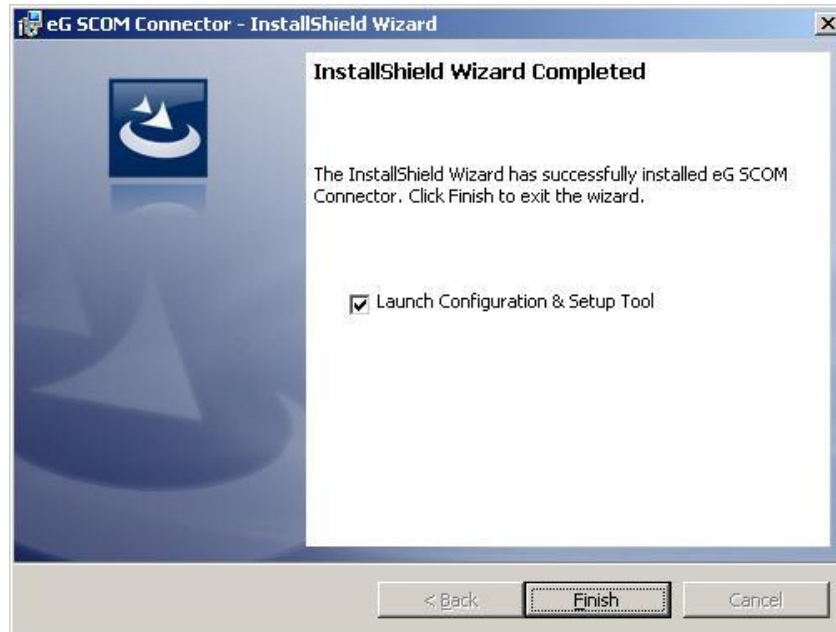

Figure 2.7: Finishing the installation
10. When installation ends, Figure 2.7 will appear. Click **Finish** to exit the wizard.
If the **Launch Configuration & Setup Tool** check box is selected in Figure 2.7, then **Finishing** the installation will automatically launch the eG SCOM Connector configuration tool. If this check box is deselected, then, you will have to manually launch the configuration tool by following the menu sequence: *Start -> Programs -> eG SCOM Connector*. Either way, once the tool is launched, proceed to configure the connector using the steps discussed below: